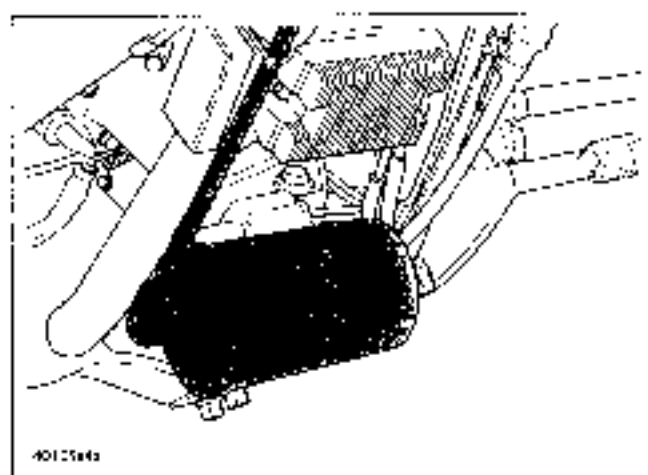

Figure 4-18. Charcoal Canister Location
See Figure 4-18. The EVAP charcoal canister is mounted between the forward frame downlubes.
1. See Figure 4-18. Slide canister into mounting bracket until canister clicks in place.